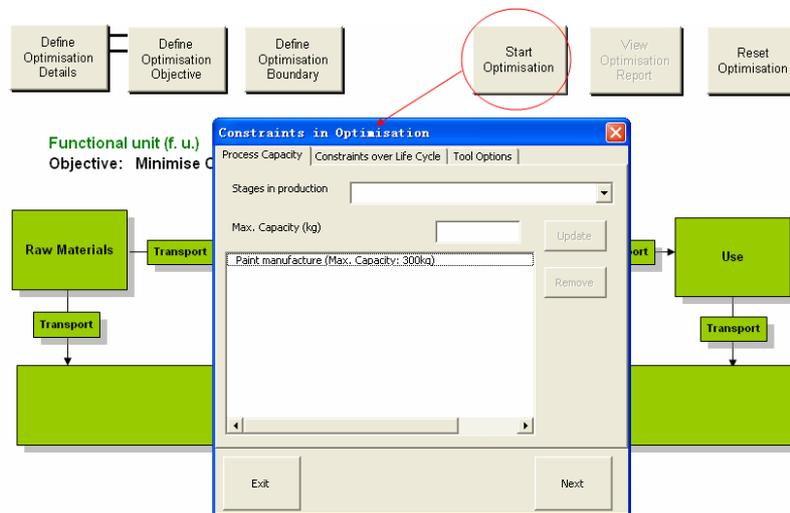

Figure 6a The form for defining optimisation constraint(s)
Step 2: Define the optimisation constraints by clicking 'Start Optimisation' at the top of the screen to bring up the 'Constraints in Optimisation' form (Figures 6a & 6b), where the optional constraints relevant to process capacity, economic and environmental impacts may be defined.
- *Process capacity constraint* (Figure 6a):